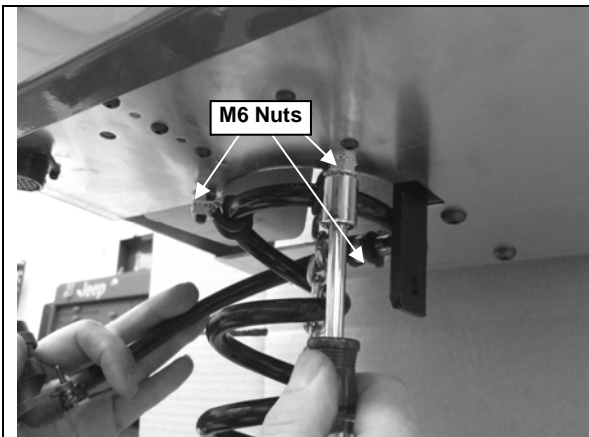

Figure 2- 8
- 3) Secure the (3) three M6 nuts on the coiled cable clamping assembly from the bottom of the Servo Hoist. (See Figure 2- 8).